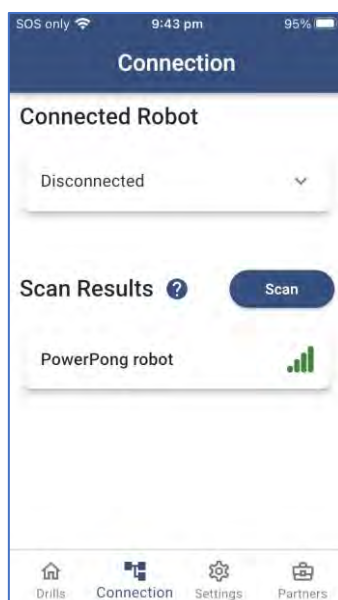

Figure 2-18
2.2.2 Connection Screen (Figure 2-18)